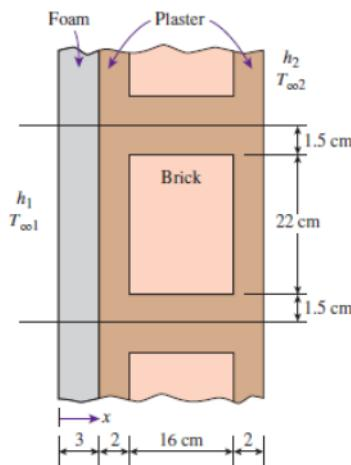

Figure 1
- b) A 3 m high and 5m wide wall consists of long  $16 \text{ cm} \times 22 \text{ cm}$  cross section horizontal bricks ( $k = 0.72 \text{ W/m}\cdot\text{K}$ ) separated by 3 cm thick plaster layers ( $k = 0.22 \text{ W/m}\cdot\text{K}$ ). There are also 2 cm thick plaster layers on each side of the brick and a 3 cm thick rigid foam ( $k = 0.026 \text{ W/m}\cdot\text{K}$ ) on the inner side of the wall, as shown in Figure 1. The indoor and the outdoor temperatures are  $20^\circ \text{ C}$  and  $-10^\circ \text{ C}$ , respectively, and the convection heat transfer coefficients on the inner and the outer sides are  $h_1 = 10 \text{ W/ m}^2 \text{ K}$  and  $h_2 = 25 \text{ W/ m}^2 \text{ K}$ , respectively. Assuming one-dimensional heat transfer and disregarding radiation, determine the rate of heat transfer through the wall.